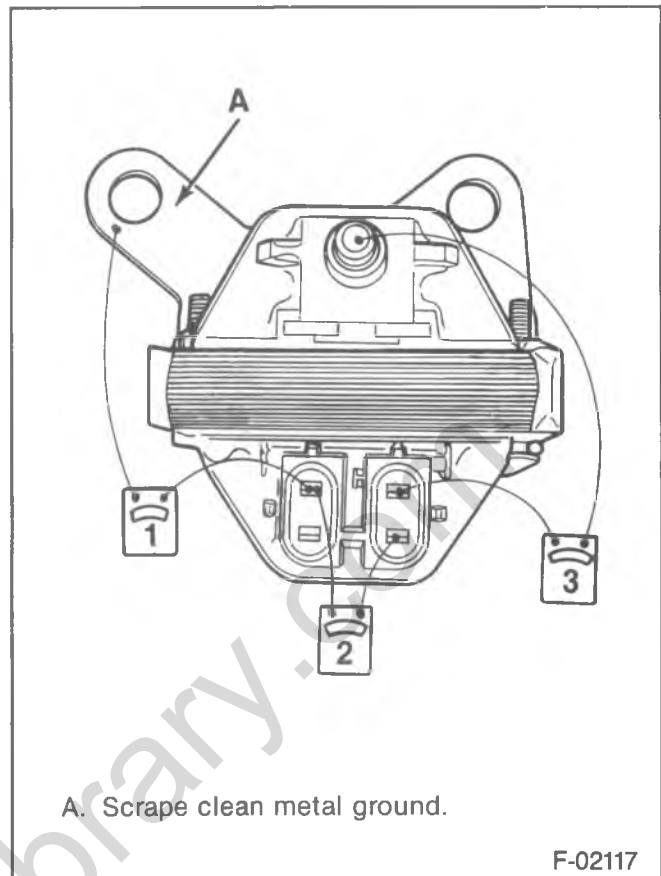

Figure 48—Testing the Ignition Coil
2. Connect an ohmmeter as shown in figure 48, step 1. Use the high scale. The reading should be infinite. If not, replace the coil.